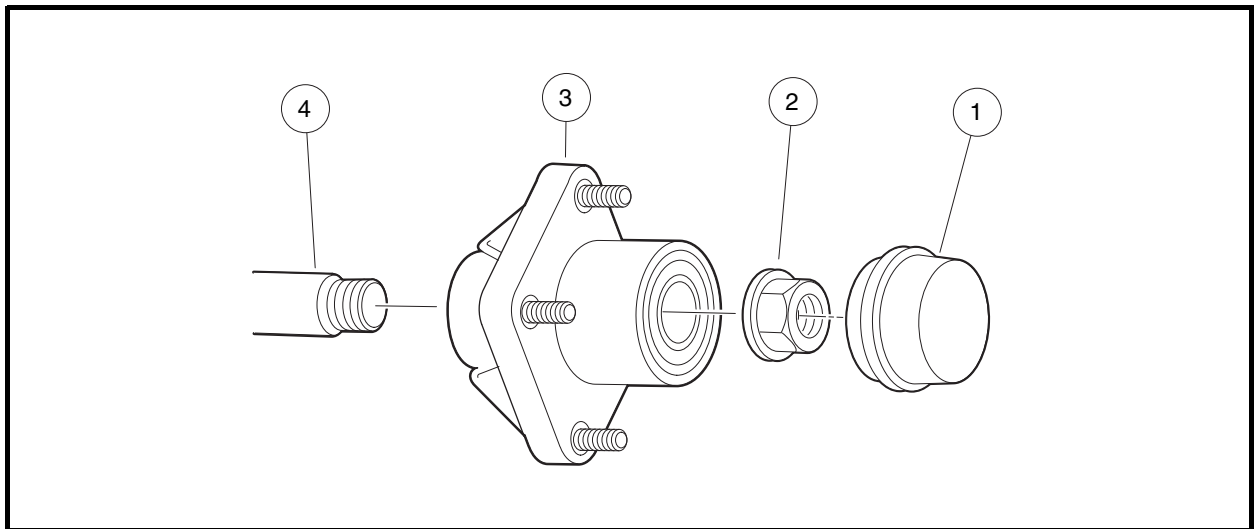

Figure 7-26 Front Wheel Hub - DS Villager 4 Vehicles
2. Remove dust cap (1) and lock nut (2) (**Figure 7-26, Page 7-27**).
3. Slide the hub assembly (3) off of the spindle shaft (4).
2. Slide the hub assembly (3) onto the spindle shaft (**Figure 7-26, Page 7-27**).
5. Install the dust cap (1) using a rubber mallet and tapping lightly around the edge of the cap.